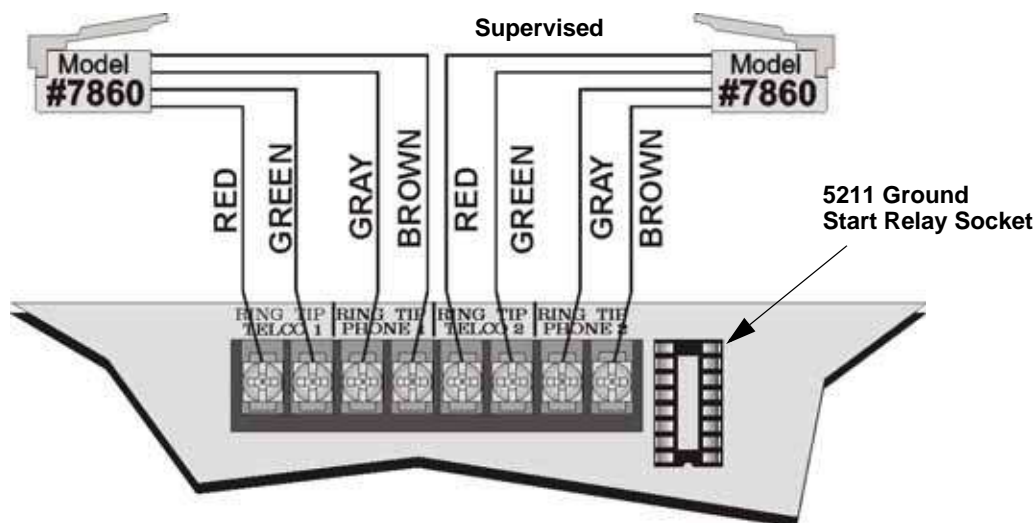

Figure 4-32 Connection of Telephone Lines
Connect the telephone lines as shown in Figure 4-32. The Model 7860 phone cord is available from Silent Knight for this purpose.
1. Install the 5211 on the ground relay socket as shown in Figure 4-32.